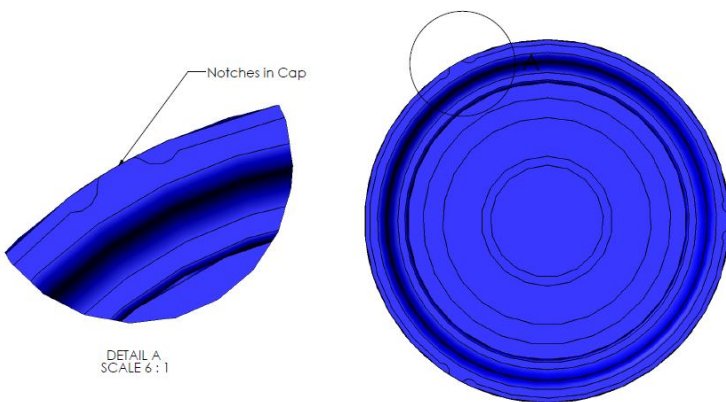
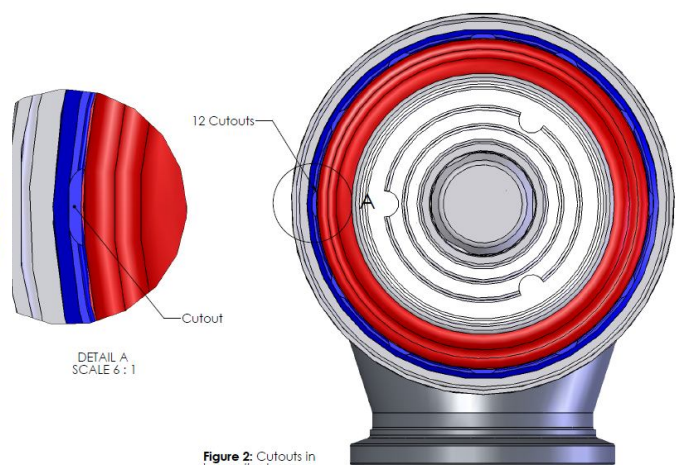

Figure 1: Notches In Cap
Figure 2: Cutouts in lower diaphragm housing
- 5) Slowly push the top cap down on the lower diaphragm housing in a vice or press. As the cap reaches the diaphragm, line up the notches in the cap (Figure 1) with the cut outs (Figure 2) in the lower diaphragm housing. Carefully push the cap down till the cap is home on the lower diaphragm housing. Reinstall the locking collar and tighten with the provided locking tool. Make sure that the cap is clamped down while tightening the collar.